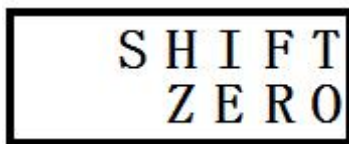

Fig.41
① Set the pipeline differential pressure to 0 kPa, at which point the display will show 0 kPa.
② Invoke the menu, navigate through the menu, and select "OFFSET". The "SHIFT" menu is displayed on the monitor as shown in Figure 41.